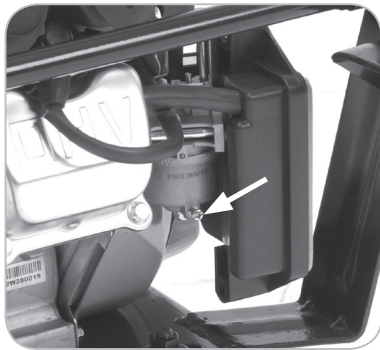

Fig. 18
- A drain tap can be found underneath the carburettor float bowl. Loosen this tap to allow the fuel to drain from the machine. **(Fig. 18)**